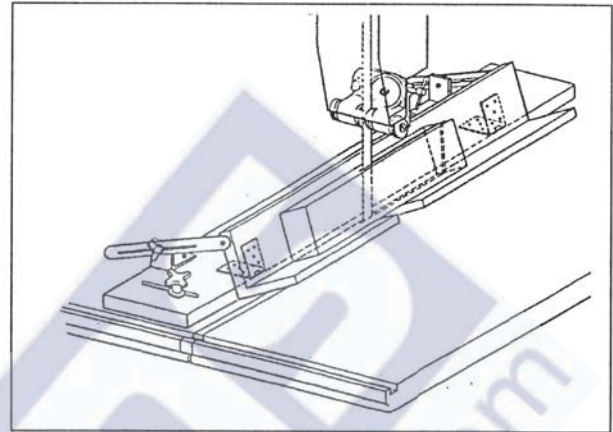

Fig. A-3 Diagonal cut
A.3.8 The diagonal cut of pieces with a square cross-section can be made by feeding the piece through a channel-type jig fixed to the table (see fig. A-3).